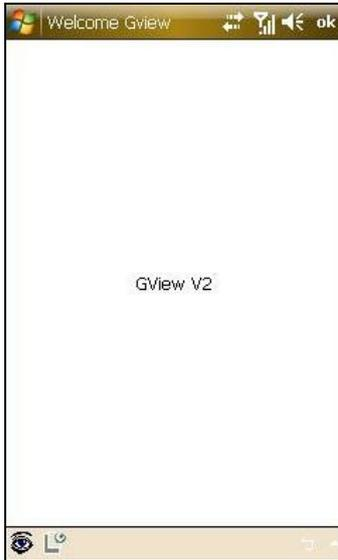

Figure 8-54
3. Click the  button located at the lower left corner (see Figure 8-54). The login screen appears.